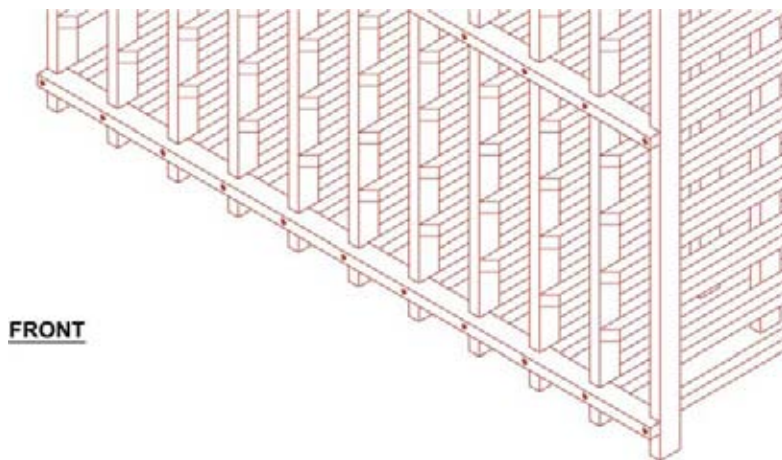

Figure 3
7. At this point all (11) ladders should be attached to the spacer bar (**Figure 3**). Set another spacer bar over the next spacer slat location tapping gently with a hammer to ensure a proper fit on all uprights.